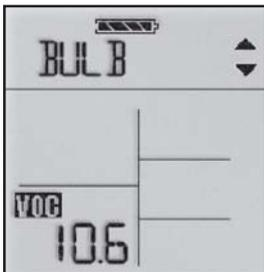

Figure 15:
2. Scroll to and select -BULB- (Figure 15)